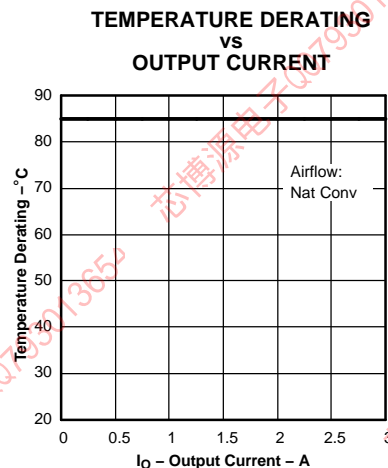

Figure 8.
- (4) The temperature derating curves represent the conditions at which internal components are at or below the manufacturer's maximum operating temperatures. Derating limits apply to modules soldered directly to a 100 mm x 100 mm double-sided PCB with 1 oz. copper. Applies to Figure 8.